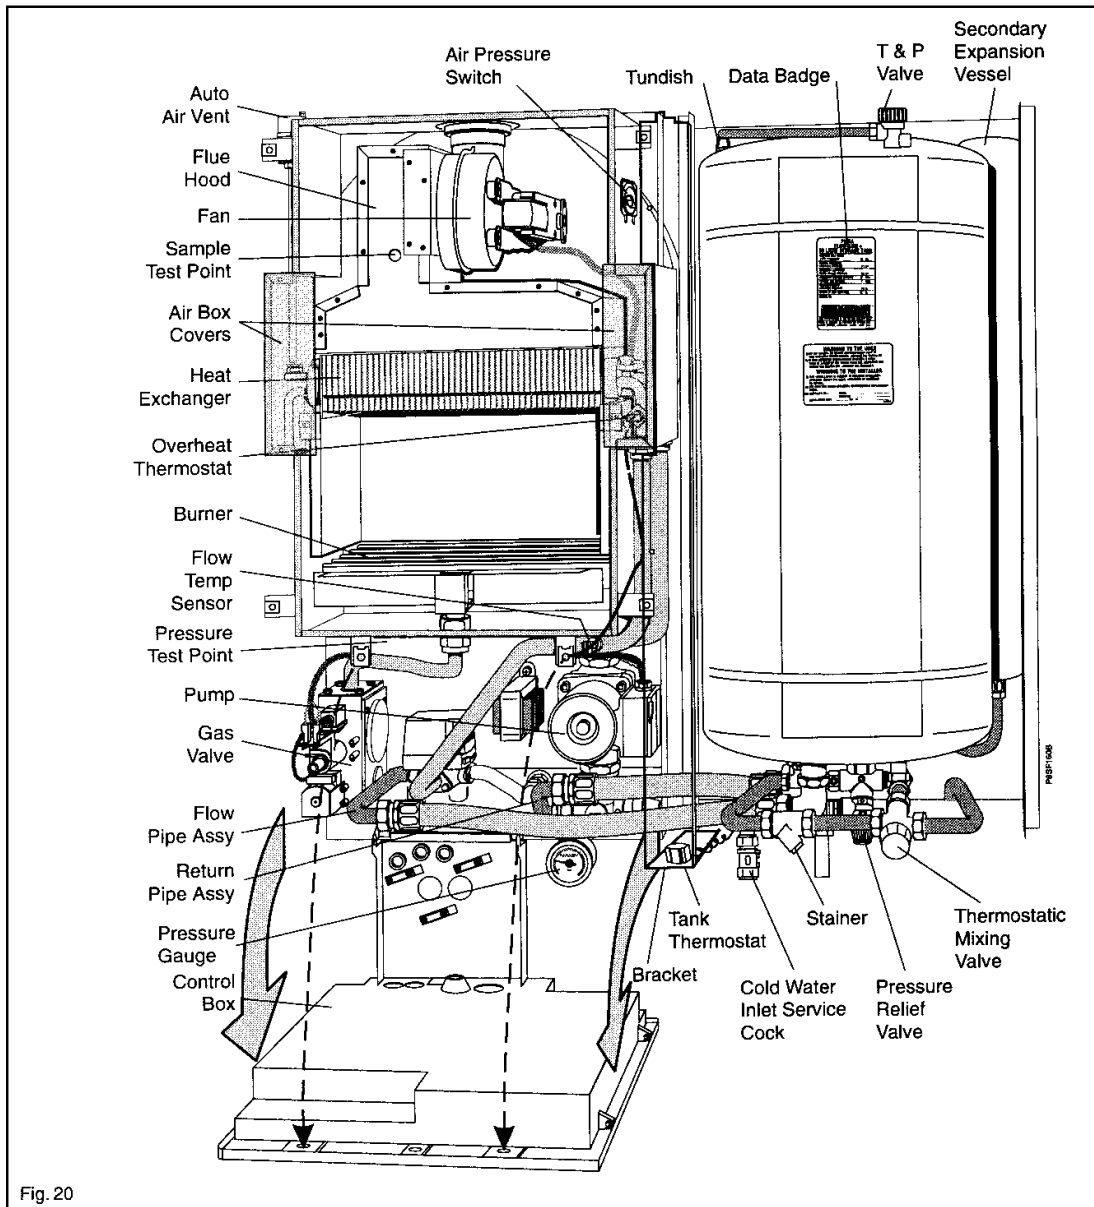

Fig. 20
(See Fig. 20)
- n) Loosen or remove the outlet (burner) pressure test point screw in the gas valve body (see Fig. 27), and connect via a flexible tube to the + or Hi side of pressure gauge. Then connect the - or Lo side of pressure gauge via another flexible tube to the pressure test point in the base of the inner casing. (See Fig. 20)